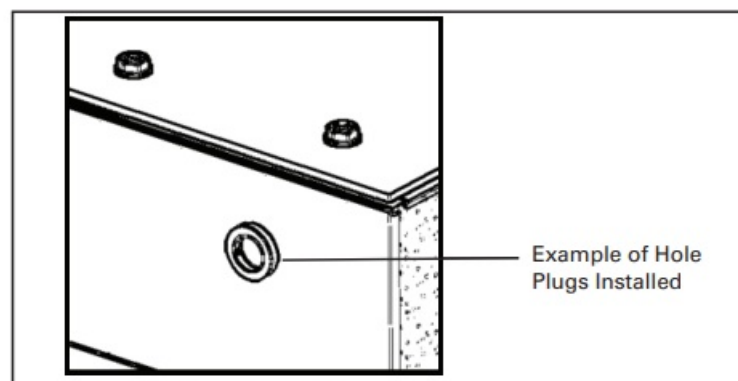

Figure 9. Hole plugs installed
- When unpacking the switchboard, exercise care not to scratch or mar the finish. Repair all scratches with touch-up paint, which is available from Eaton. Remove shipping skids and all packaging material. Remove any temporary shipping braces or spacers. Remove lifting angles and associated hardware. Plug lifting angle holes with hole plugs supplied by the manufacturer. (See Figure 9.)